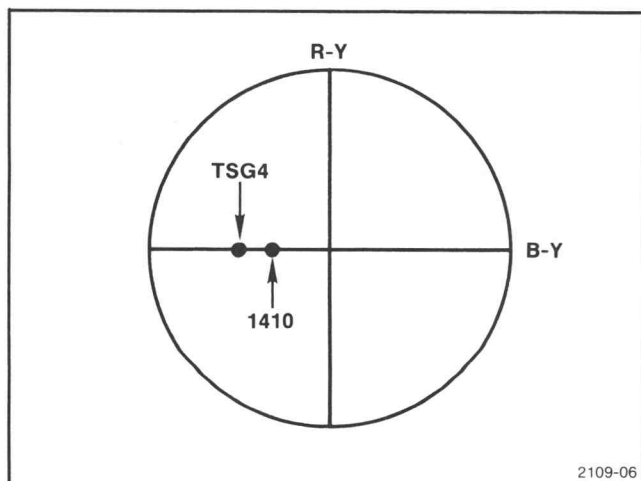

Fig. 4-3. Subcarrier phase adjustment illustration.
a. Connect the 1410 Mainframe subcarrier output to the vectorscope CW Ext \emptyset Ref input. Connect the other Ext \emptyset Ref input to CH B through the 10X attenuator pad. Connect the TSG4 output to CH A. Display CH A and CH B. See Fig. 4-3.